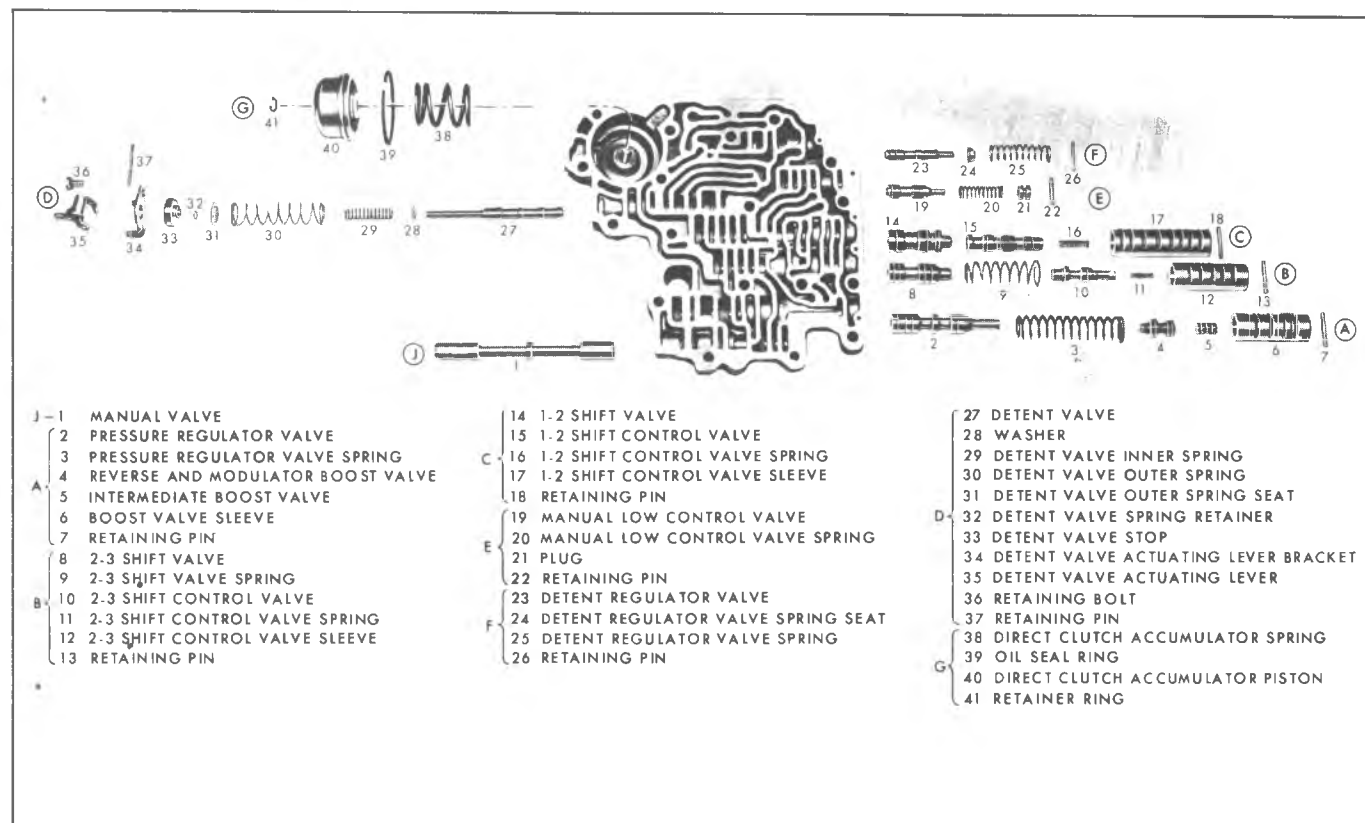

Fig. 53M--Valve Body--Exploded View
VALVE BODY DISASSEMBLY, INSPECTION, AND REASSEMBLY (FIG. 53M)
1. Position valve body assembly with cored face up and direct clutch accumulator piston pocket positioned as shown in Figure 53M.